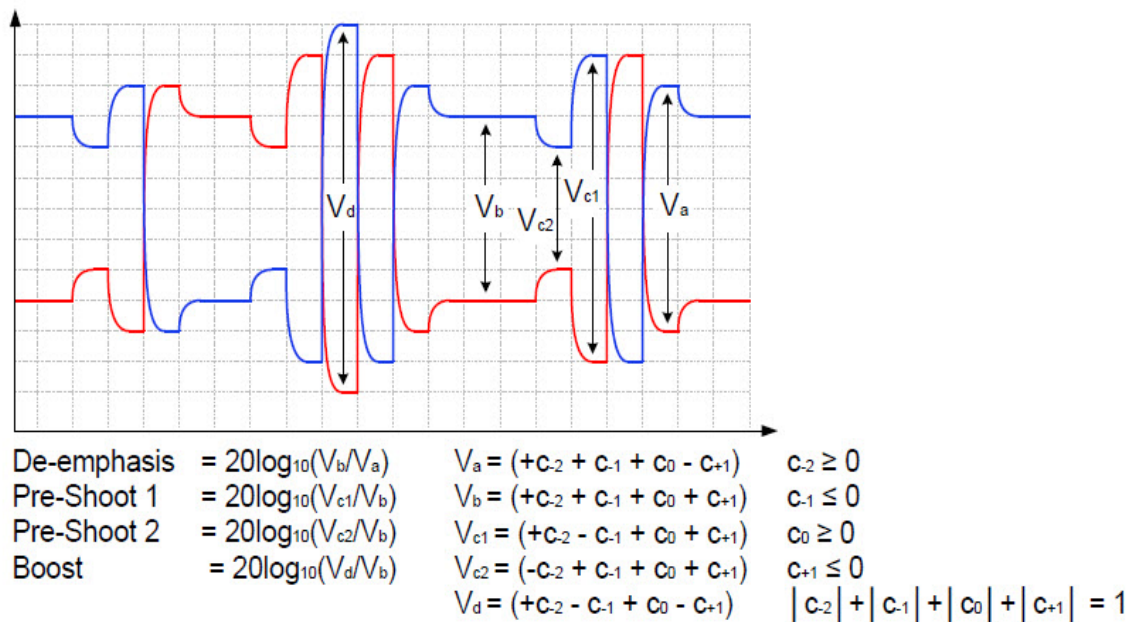

Figure 42 Waveform measurement points for preshoot and de-emphasis
64.0 GT/s PCIe signaling must support the full range of presets given in Table 8-2 (PCIe Base Specification Revision 6.0). Presets are defined in terms of ratios, relating the pre-cursor and post-cursor equalization voltages. The pre-cursor (V_c) is referred to as pre-shoot, while the post-cursor (V_b) is referred to as de-emphasis. This convention permits the specification to retain the existing 2.5 GT/s and 5.0 GT/s definitions for Tx equalization, where only de-emphasis is defined, and it allows preshoot and de-emphasis to be defined such that each is independent of the other. The tolerances in Table 8-1 (PCIe Base Specification Revision 6.0) also apply to 2.5 and 5.0 GT/s de-emphasis. The maximum swing, V_d , is also shown to illustrate that, when both c_{+1} and c_{-1} are nonzero, the swing of V_a does not reach the maximum as defined by V_d . The high frequency nature of PCIe signaling makes measurement of single UI pulse heights impractical. Consequently all amplitude measurements are made with low frequency waveforms as shown in Figure 42.
- 13 Computes their equalization voltages by using Matlab, and then calculates equalization ratios by using the formulae stated in Figure 42 (Figure 8-6 of the spec).